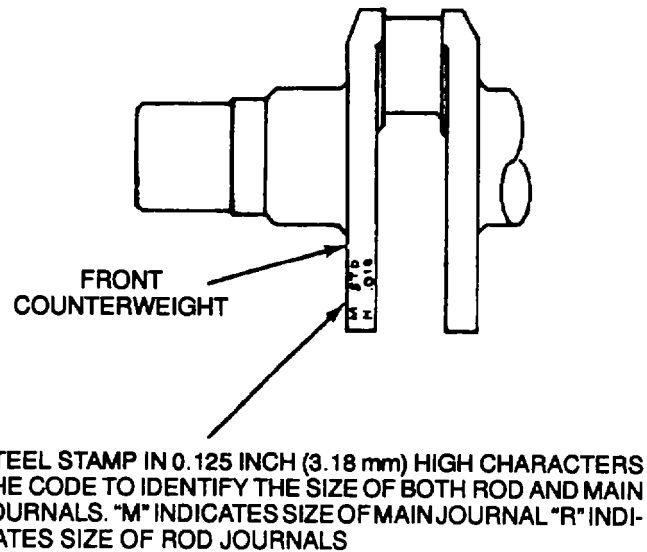

Figure 9-54. Identification of Rod and Main Bearing Journal Sizes
- (3) Using steel stamps having 0.125 inch (3.18 mm) characters, stamp the front counterweight to identify the regrind size of both the connecting rod journals, and the main bearing journals (Figure 9-54).